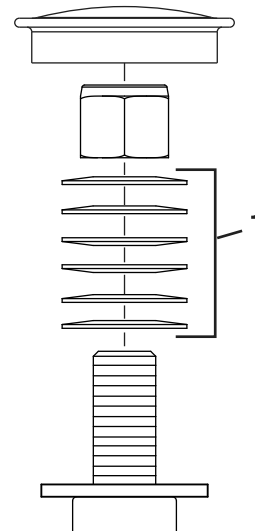

Figure 56
3. Remove the dust cap from the caster and tighten the locknut (Figure 56).
4. Tighten the locknut until the spring washers are flat, and then back off a 1/4 turn to properly set the preload on the bearings (Figure 56).
Important: Make sure that the spring washers are installed correctly as shown in Figure 56.
5. Install the dust cap (Figure 56).